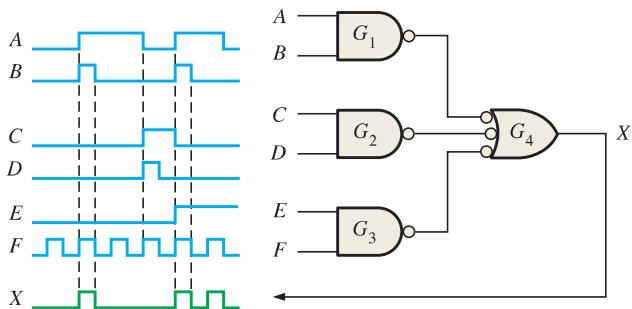

FIGURE 5–70
49. By examining the connections in Figure 5–71, determine the driving gate and load gate(s). Specify by device and pin numbers.